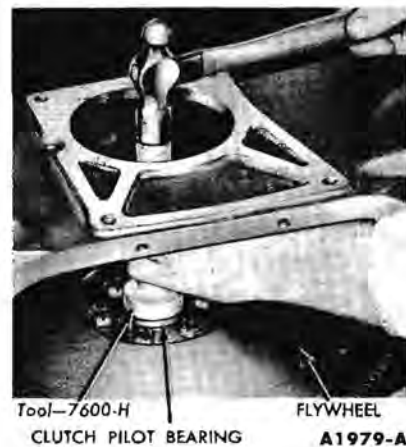

FIG. 45—Typical Clutch Pilot Service Bearing Installation
4. Using tool T52T-12175-AJD, install the pilot service bearing (Fig. 45).